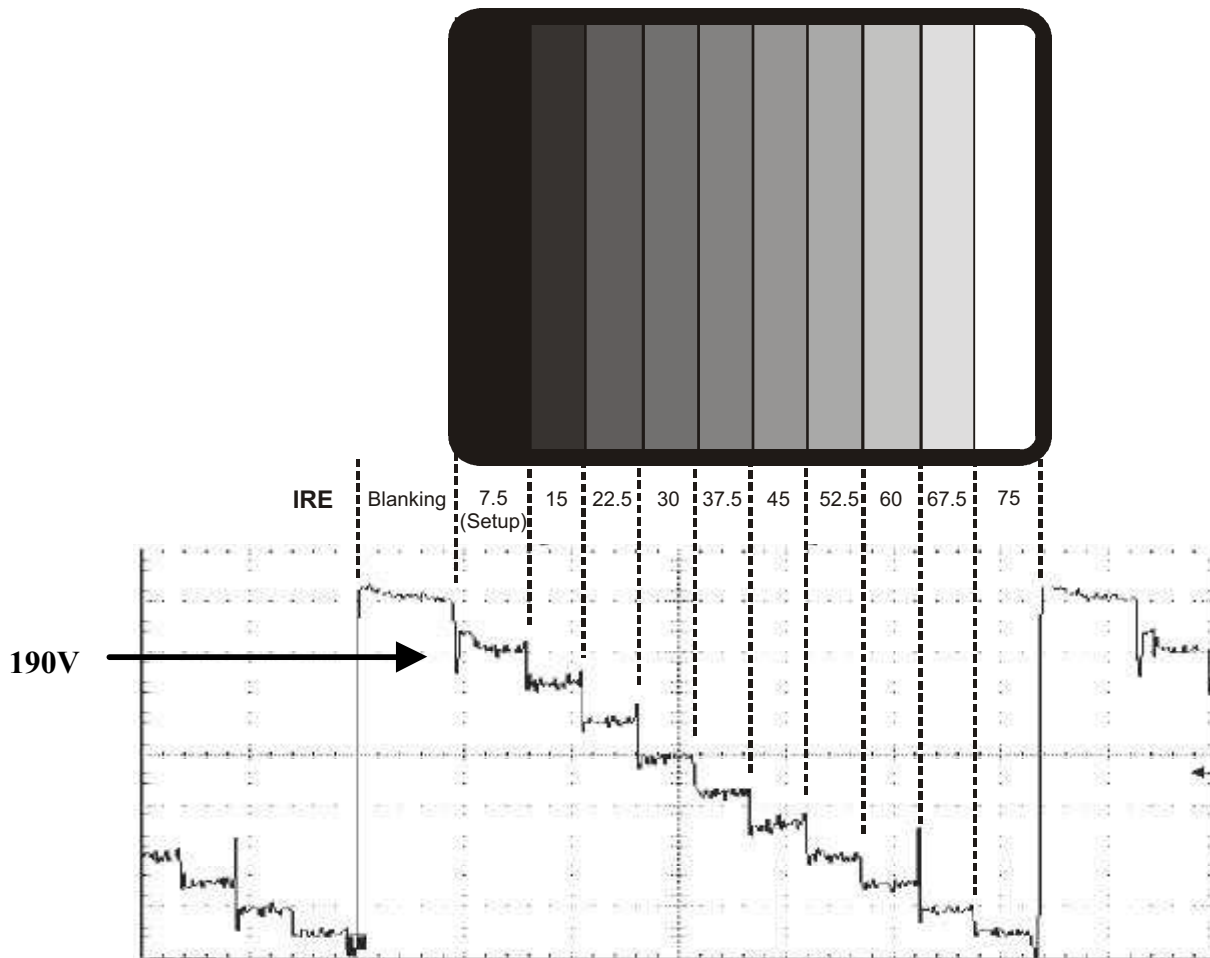

Figure 2
1. Apply a vertical gray bar staircase pattern (at least 8 bars from "7.5" to " ≥ 75 " IRE similar to Figure 2 below) to the video input and adjust the set for operation from that input. Identify the "7.5" IRE bar location both on-screen and using an oscilloscope. The 7.5 IRE bar is "black" or "cutoff" and will be used for reference. On most patterns, the remainder of the bars will progressively become brighter.